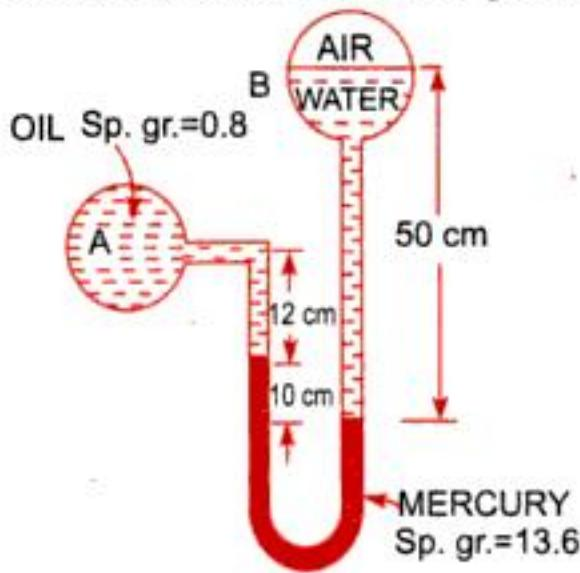

Fig. 2.25
14. A differential manometer is connected at the two points A and B as shown in Fig. 2.25. At B air pressure is 7.848 N/cm^2 (abs.), find the absolute pressure at A. [Ans. 6.91 N/cm^2]